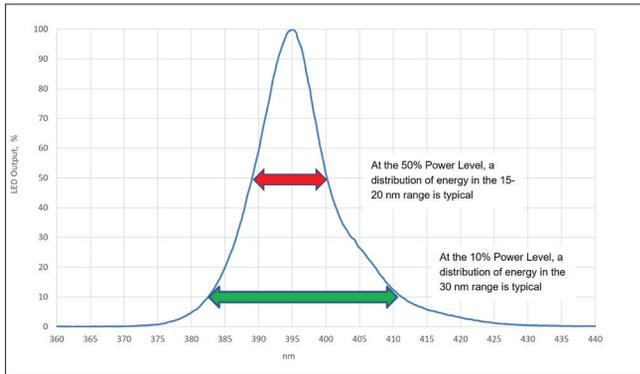

Figure 1.
3. **Source Type:** We don’t have a “standard oven” in curing and the UV source needs to be specified. For UV LEDs, this includes the peak center wavelength (CWL) and tolerance (most often ± 5 nm). The tolerance allows for variations in how the individual LED diodes are screened and selected (binned). The peak output for a 395-nm LED is expected to fall between 390-400 nm. The spectral distribution widens to 15-20 nm at the 50% power level and to 30+nm at the at the 10% power level (see Figure 1).